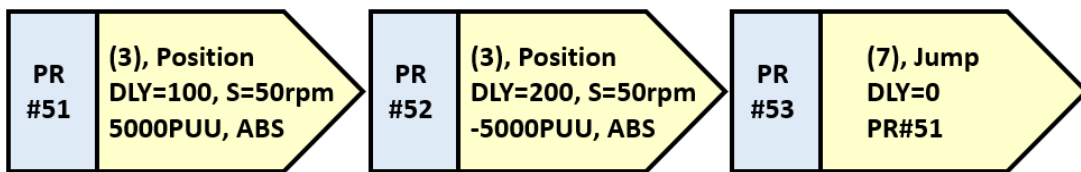

Figure 3.4.1 PR commands procedure
1. Three PR commands which stated in Figure 3.4.1 and explained in Table 3.4.1 are designed to move the motor back and forth repeatedly in order to check if the feedback of the auxiliary encoder is following the main encoder or not.